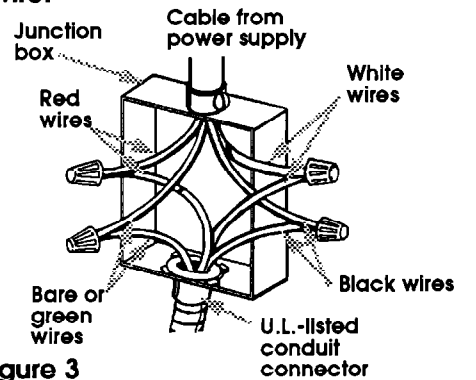

Figure 3
A four-wire, power supply cord must be used in a mobile home installation. The appliance wiring will need to be revised. See "Electrical requirements," Figure 3, Panel B.
4. Connect the two black wires together; then the two red wires together. See Figure 3.